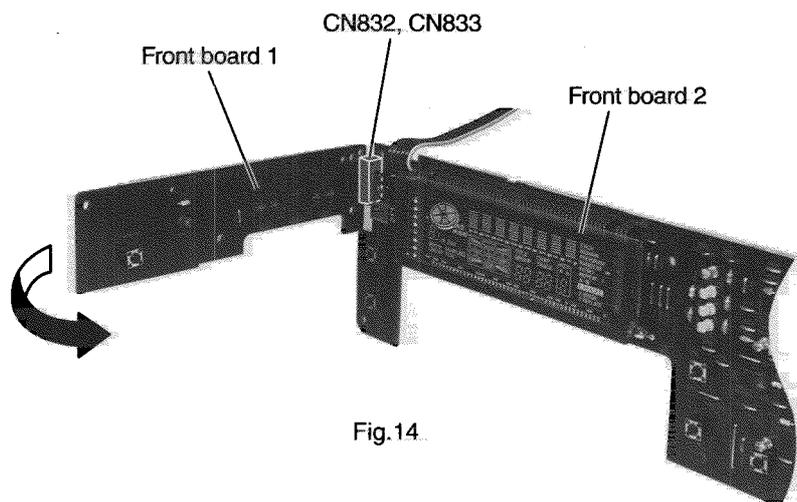

Fig.14
8. Turn CN832 and CN833 90 degrees as shown in the Fig.14, then remove the front board 1 and the front board 2.